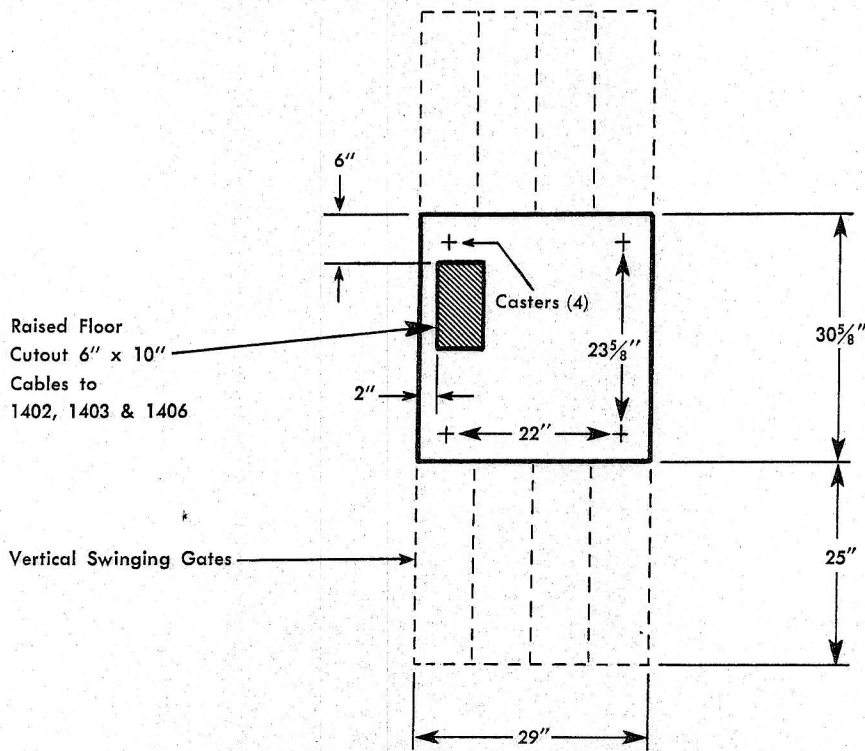

Figure 2. IBM 1401 Processing Unit, Model A
2. All other dimensions and locations are the same as for current machines (see Figures 2 and 3).